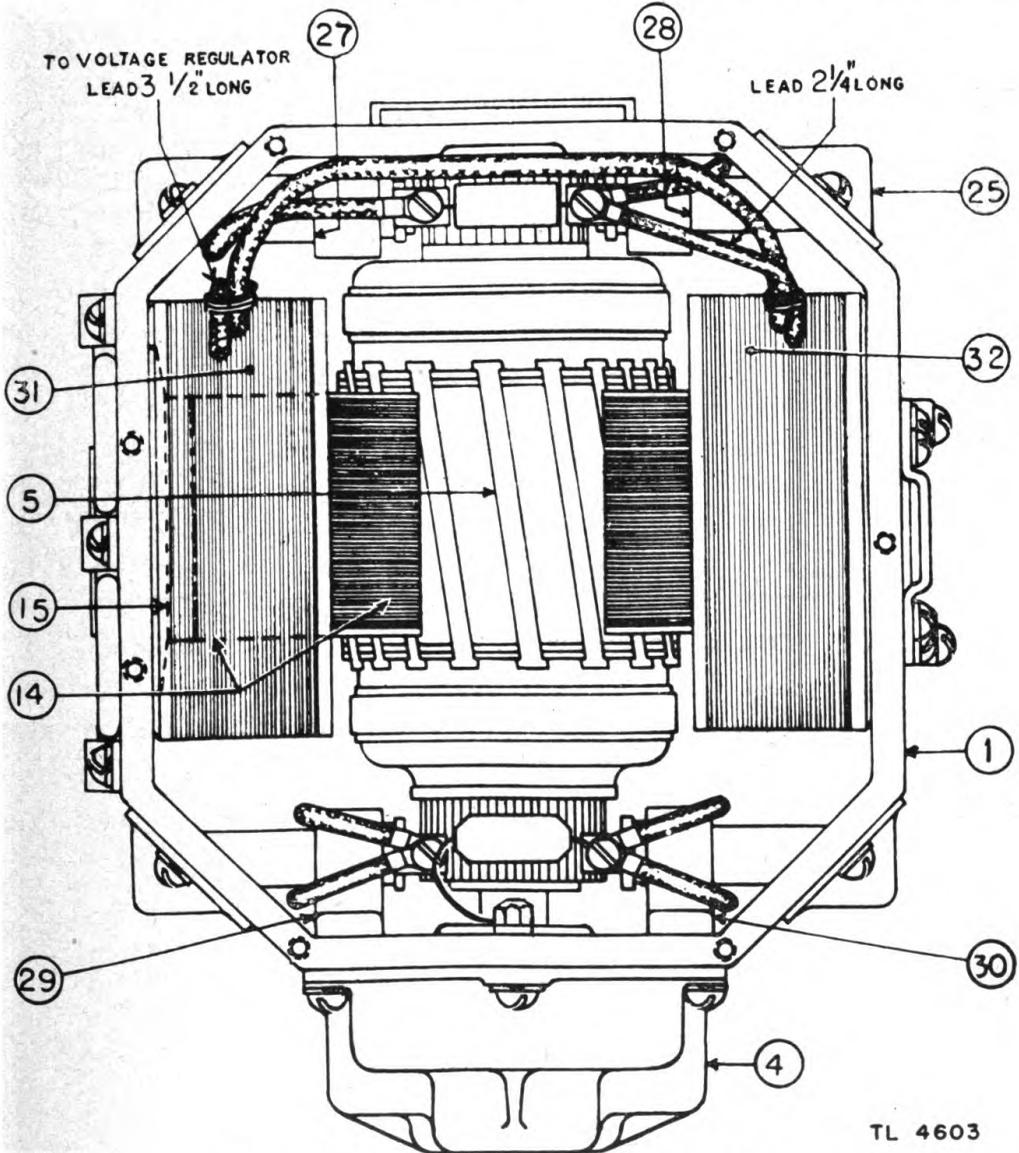

FIGURE 29.—Generator GN-44-A—bottom interior view.
c. Brush replacement.—Prolonged usage will wear away the active surface of the brushes. (See figs. 29 and 30.) There are two types of brushes used and replacement should be made with Morganite Brush Company's brushes or equivalent. For the low-voltage side, the type link CM3 soft metallic copper brush should be used; for the high-voltage side, the type link B6 hard black carbon brush should be used. To replace the brushes, remove caps 25 on either side of gear